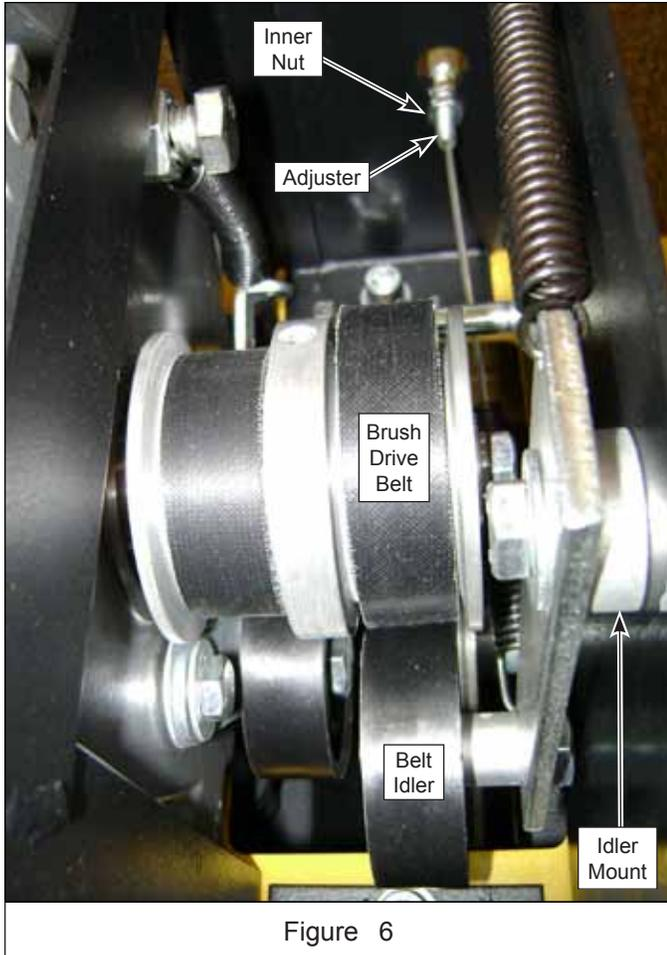

Figure 6
3. Loosen the adjuster's inner nut away from the belt cover. See Figure 6.
5. Install the ring plate and end plate on the outside of the last wafer with drive pin of wafer inserted in end plate hole. See Figure 6.